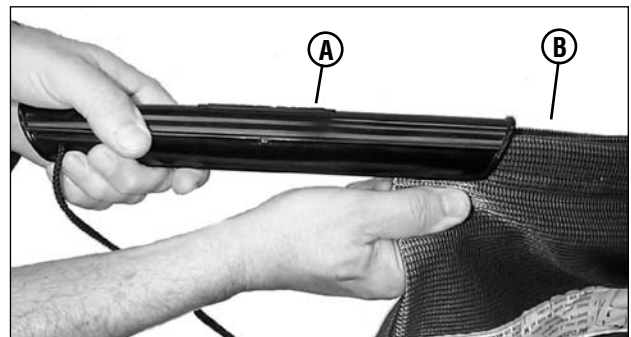

Figure 15: Removing the bag slider
2. Open the bag by pulling the bag slider (**A, Figure 15**) off of the Z-fold at the rear of the bag (**B**).